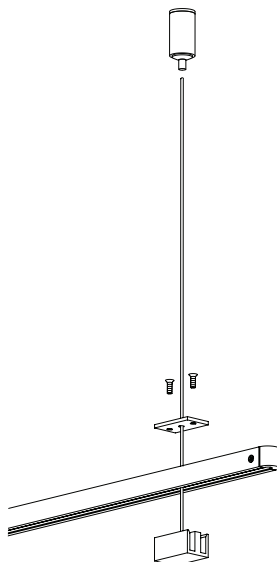

Fig. 5
2. Pass the Ceiling Hanger cable through the Power Bar, then through the center hole of the cover, making sure the counter-sunk holes on the cover are facing up. Attach the cover to the Ceiling Hanger using the two small Phillips screws. (Fig. 5)